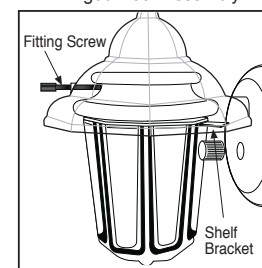

Figure 7
- For front fitting screw glass fixtures carefully loosening fitting screw, remove glass and insert bulb. Reattach glass carefully by fitting back of glass into shelf brackets, secure glass with fitting screws. Note that the fitting screw and the shelf bracket sit at different levels on glass cove. (see figure 7).